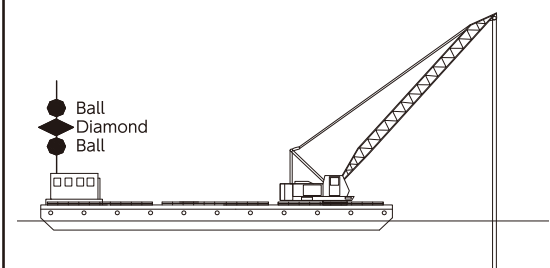

Figure 5: Signal on the diver boat
- 2) Diver boats will raise a signal board with the international maritime signal flag (code A) for the prevention of collision at sea to make it clear that work is taking place. (Refer to Fig. 5)